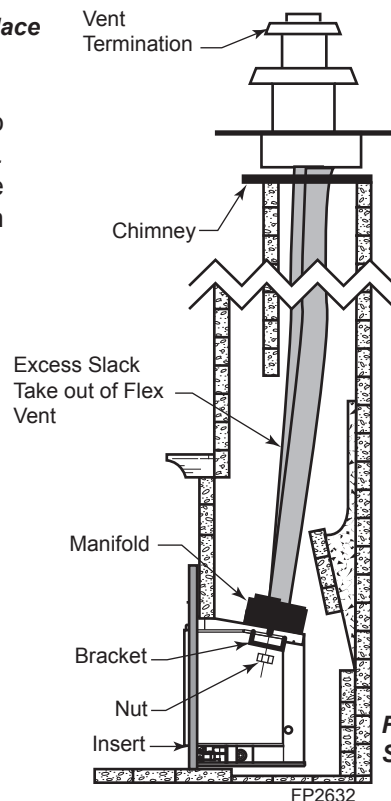

Figure 13 - Slide Insert into Place
6. Slide insert into place. Guide the manifold over the insert until it is fully in place. *Figure 13*
7. Remove any slack from flex vent. Attach manifold to insert. *Figure 13*
8. Remove any excess slack in flex line. Attach vent termination. *Figure 13*